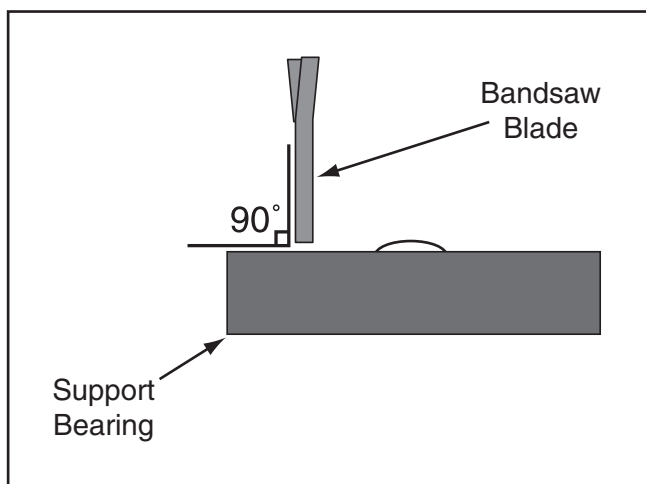

Figure 34. Support bearing 90° to the blade.
- Loosen the guide block cap screws, then rotate the blade guide assembly side-to-side until the face of the support bearing is perpendicular (90°) to the blade, as illustrated in **Figure 34**.